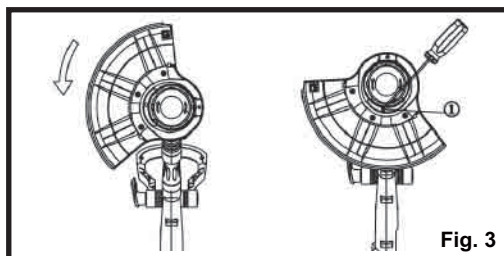

Fig. 3
Fitting the guard (See Figure 2 & Figure 3.)
2. Place the safety guard onto the motor housing as shown, pivot the guard anti-clockwise to the position of figure 3. Secure the guard with the screw.